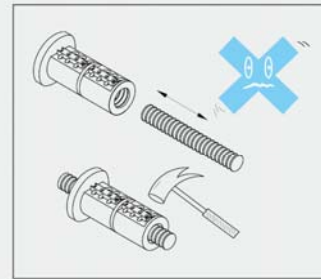

Fig 1.3 Carefully protect the nut
(4) Oil mist bath or drip feeds are acceptable. However, direct application to the ball nut is recommended (Fig. 1.3).